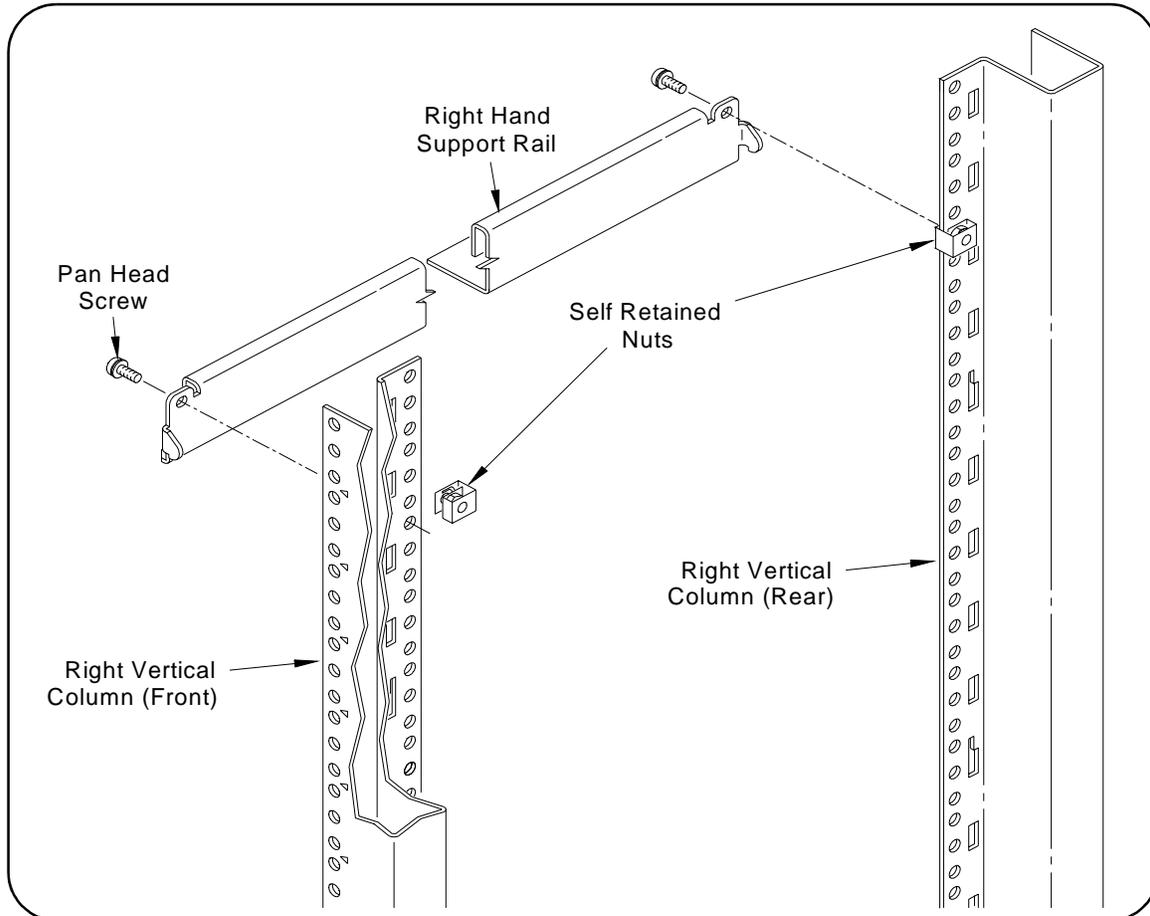

Figure 2-18. Installing Support Rails
### Install Support Rails (Figure 2-18)
- 4 Secure each Support Rail to the columns as shown in Figure 2-18.